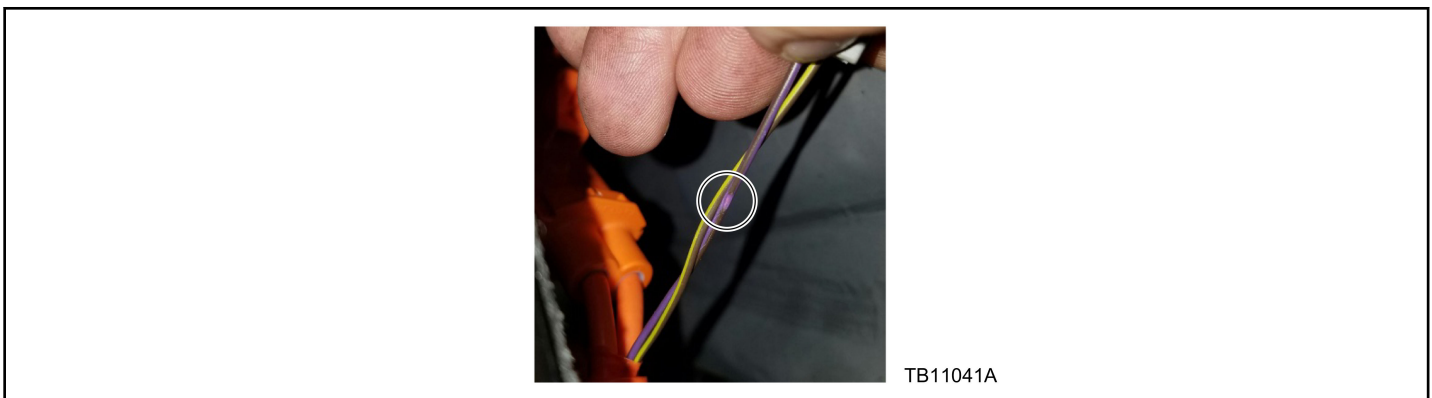

Figure 2 - Article 17-0015
7. Remove the affected circuit from the connector, apply heat shrink tubing over the chafed area of the circuit and apply Coroplast tape over the heat shrink tube. Secure the 10B689 harness to prevent repeat occurrence. (Figure 2)